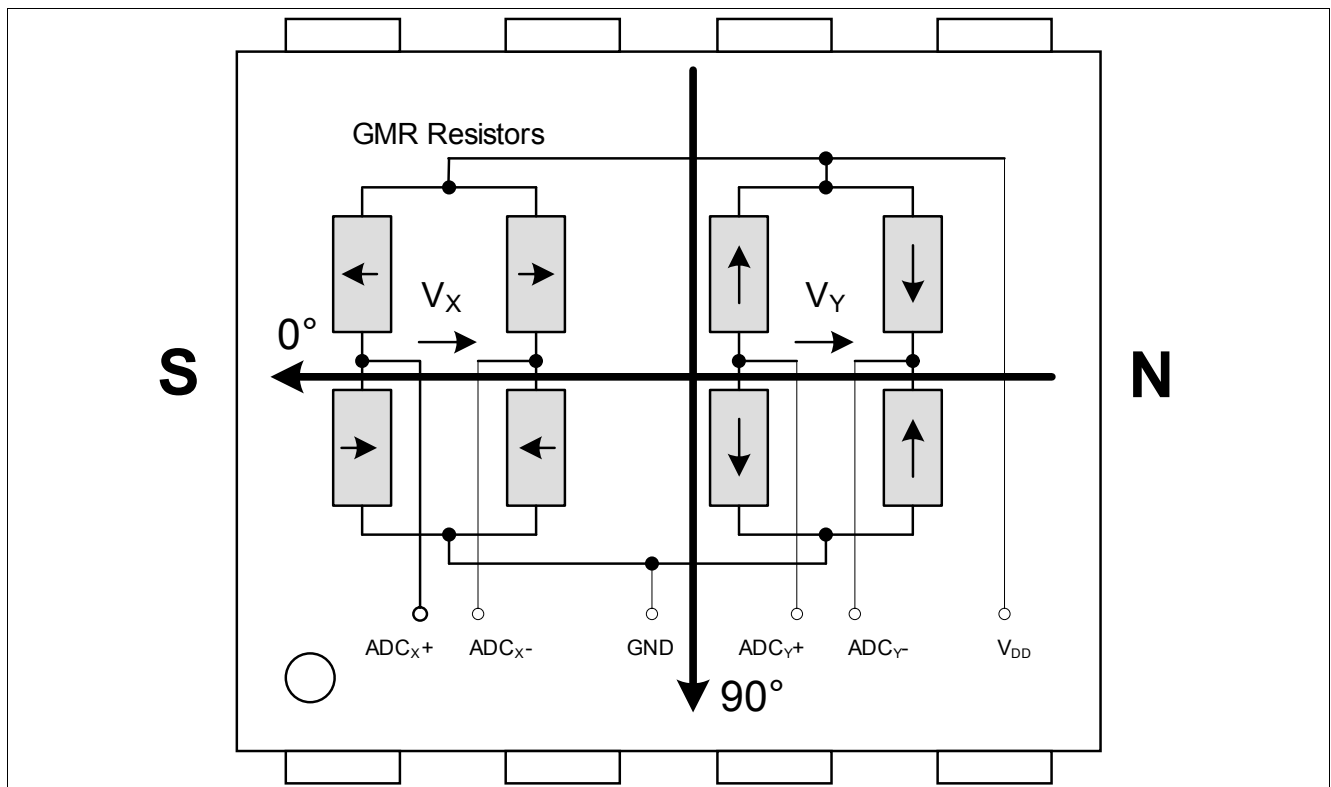

Figure 2-4 Sensitive bridges of the GMR sensor (not to scale)
**Attention:** Due to the rotational placement inaccuracy of the sensor IC in the package, the sensors 0° position may deviate by up to 3° from the package edge direction indicated in Figure 2-4.
In Figure 2-4, the arrows in the resistors represent the magnetic direction which is fixed in the Reference Layer. On top of the Reference Layer, and separated by a non magnetic layer, there is a Free Layer. When applying an external magnetic field the Free Layer moves in the same direction as the external magnetic field, while the Reference Layer remains fix. The resistance of the GMR elements depends on the magnetic direction difference between the Reference Layer and the Free Layer.